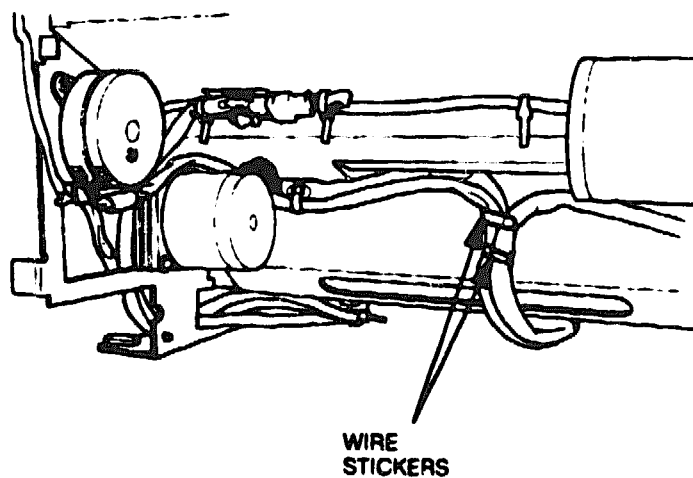

Figure 6-91 LF Motor Wire Stickers
3. Place the mechanism unit flat on the worktable. Then remove the LF motor cable from the two wire stickers on the lower base plate (see Figure 6-91).